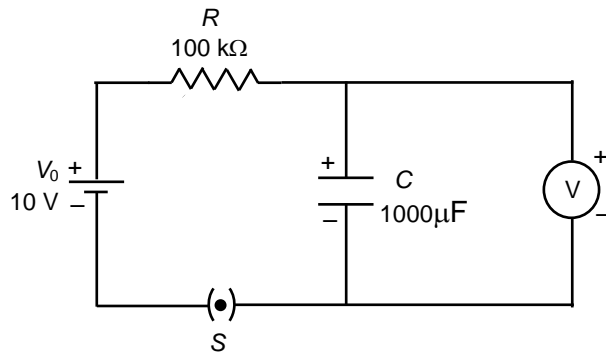

Fig. 3.4: Circuit for studying charging in a large time constant series RC circuit.
1. Connect the components in a series RC circuit as shown in Fig. 3.4. Note that the capacitor and resistor are connected in series with the voltage source V_0 . The voltmeter (or multimeter in dc voltage measurement mode) is connected in parallel with the capacitor. Keep the key S open at the beginning.